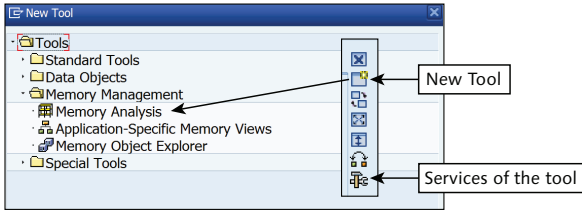

Figure 21.12 Memory Analysis Tool
1. Select the NEW TOOL button and then select MEMORY ANALYSIS under the MEMORY MANAGEMENT folder, as shown in Figure 21.12.